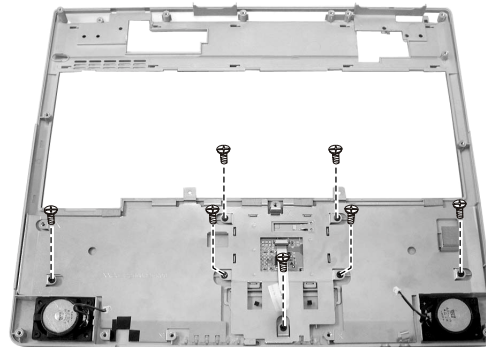

Figure 2-25 Remove the touch-pad
3. Remove the seven screws fastening the touch pad shield. (Figure 2-25)